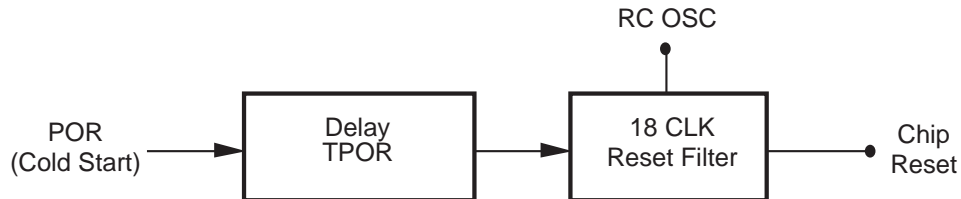

Figure 13. Internal Reset Configuration
**Reset.** Upon power-up, the Power-On Reset circuit waits for TPOR, plus 18 clock cycles, then starts program execution at address 000CH (Figure 13). The Z86319 control registers' reset values are shown in Table 4.